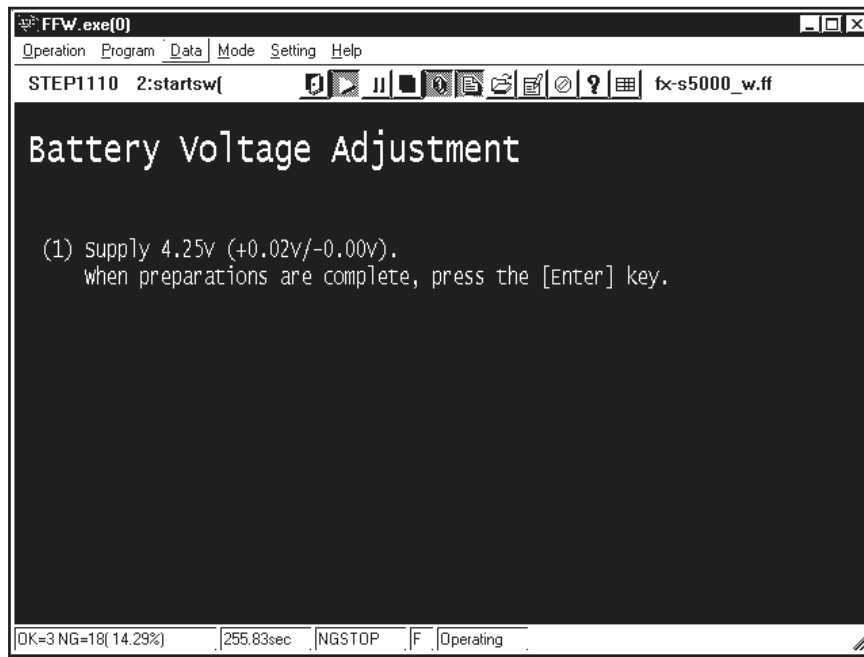

Fig.24
---> The **[Battery Voltage Setting Screen 2.15V (Fig.24)]** appears.